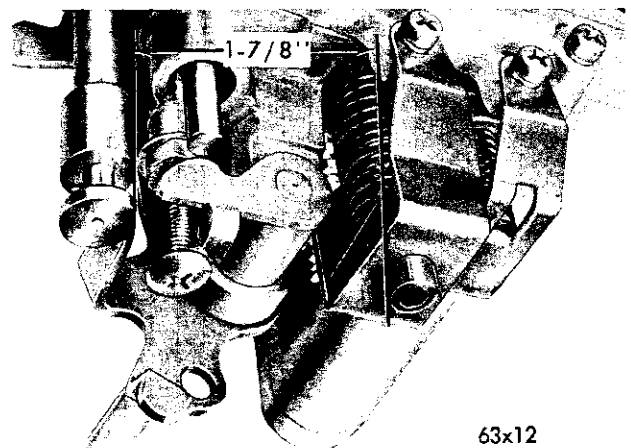

Fig. 26—Inspecting Spring Retainer Locations
**NOTE:** Before adjusting the line pressure, measure the distance between the manual valve (valve in 1-low position) and line pressure adjusting screw (Fig. 26). This measurement must be 1-7/8 inches; correct by loosening the spring retainer screws and repositioning the spring retainer. The regulator valve may cock and hang up in its bore if the spring retainer is out of position.